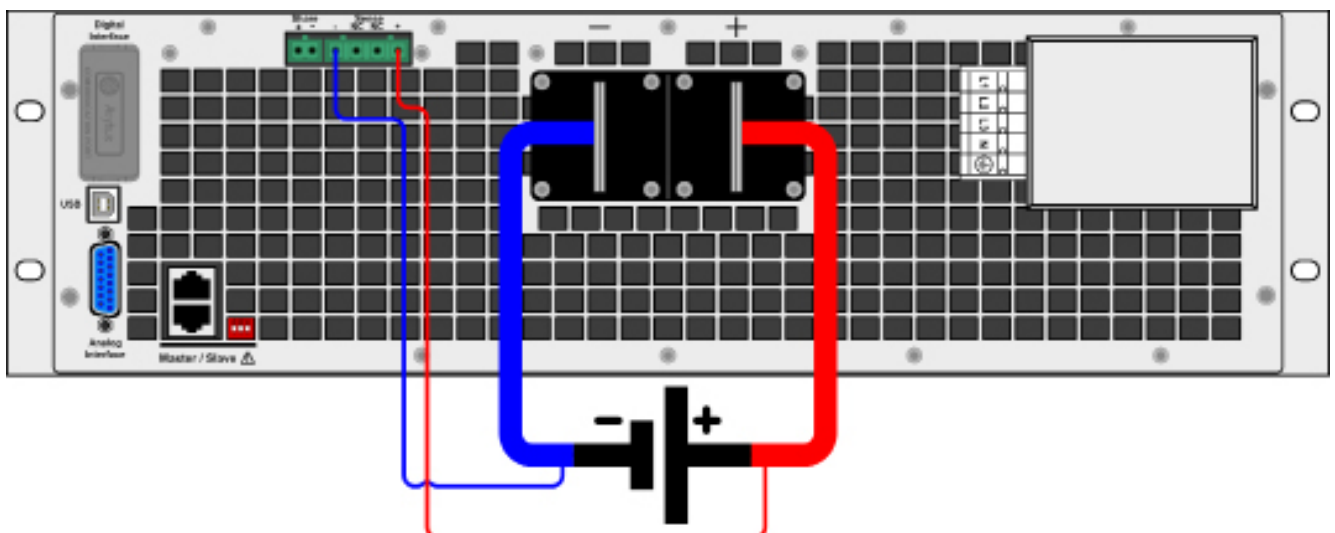

Figure 12 - Example for remote sensing wiring
- *Remote sensing is only effective during constant voltage operation (CV) and for other regulation modes the sense input should be disconnected if possible, because connecting it generally increases the oscillation tendency.*
- *Sensing cables must be connected + to + and - to - at the source, otherwise the sense input of the electronic load can be damaged. For an example see Figure 12 below.*